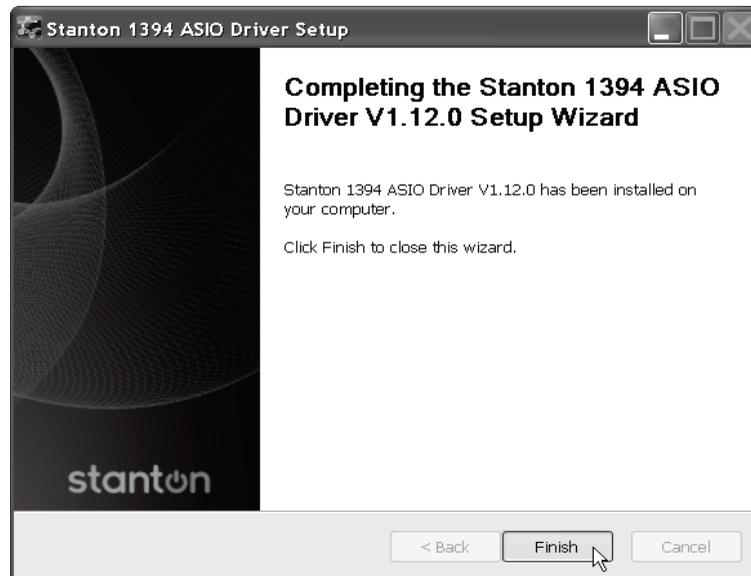

Figure 4.8
8. Stanton 1394 ASIO Driver has been installed. Click **Finish** to close this wizard. (Figure 4.8)